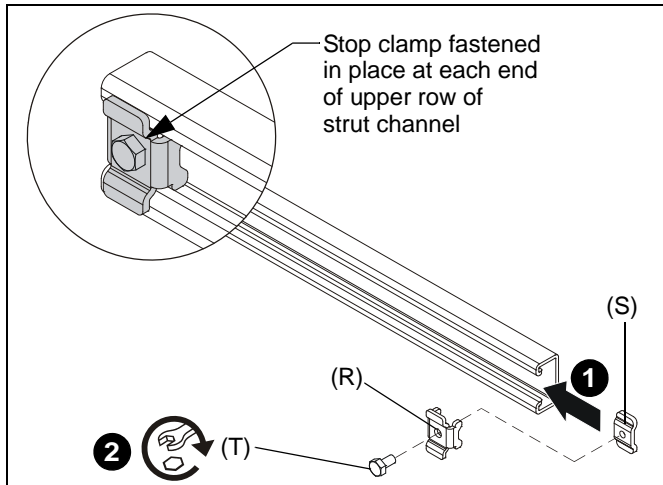

Figure 8
1. On the top rail, slide one inner stop clamp (S) into end of strut channel section. (See Figure 8)
2. Fasten outer stop clamp (R) to inner stop clamp (S) using one 1/4-20 x 1/2" hex head screw (T). (See Figure 8)